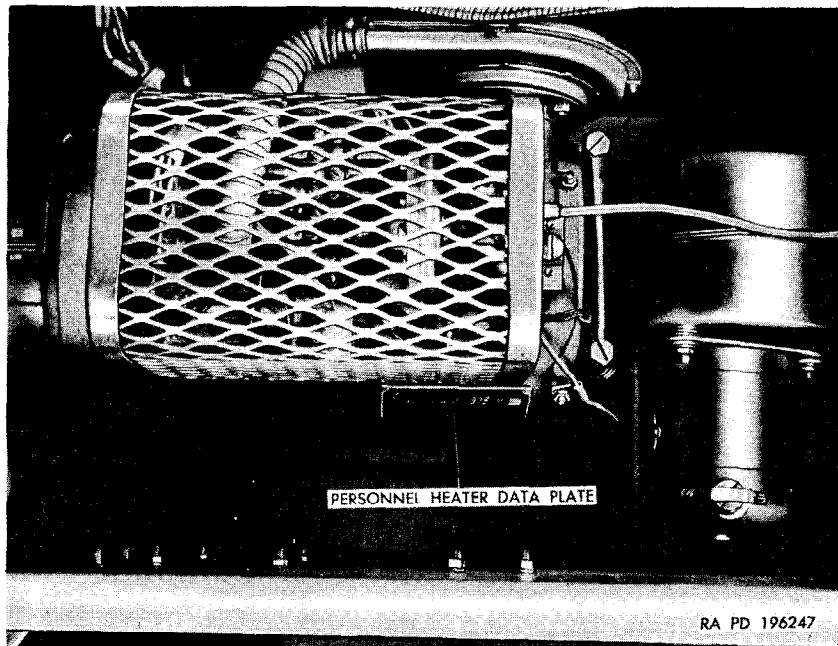

Figure 11. Personnel heater data plate in patient compartment (ambulance truck M43).
z. Personnel Heater Data Plate (Ambulance Truck M43) (fig. 11).